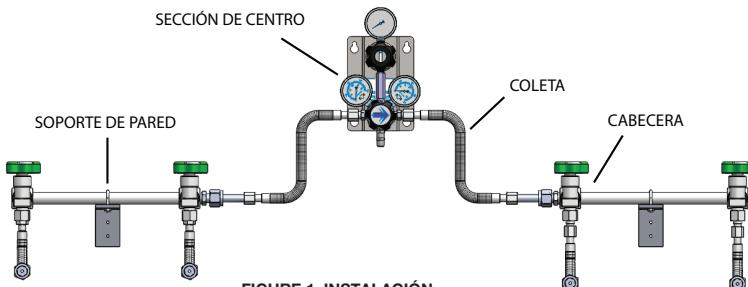

FIGURE 1. INSTALACIÓN
3. Your gas distribution system will include of one or more of the following components: (See Fig. 1 below)
(Vea la Fig. 1)